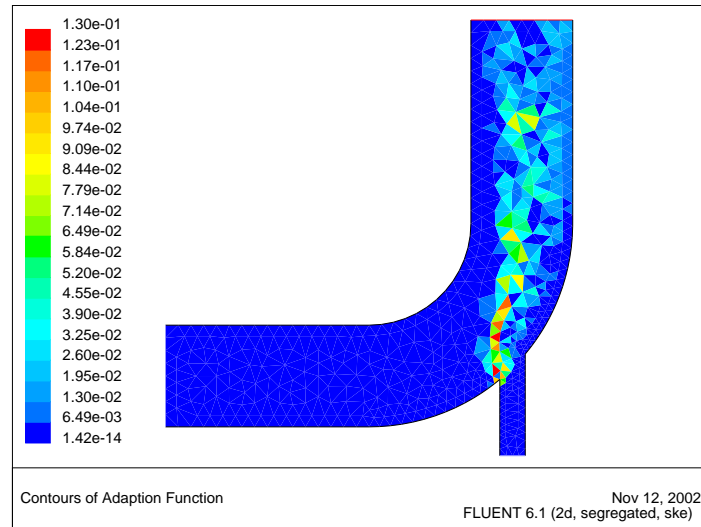

Figure 1.14: Contours of Adaption Function: Temperature Gradient
2. Plot the temperature gradients that will be used for adaption (Figure 1.14).